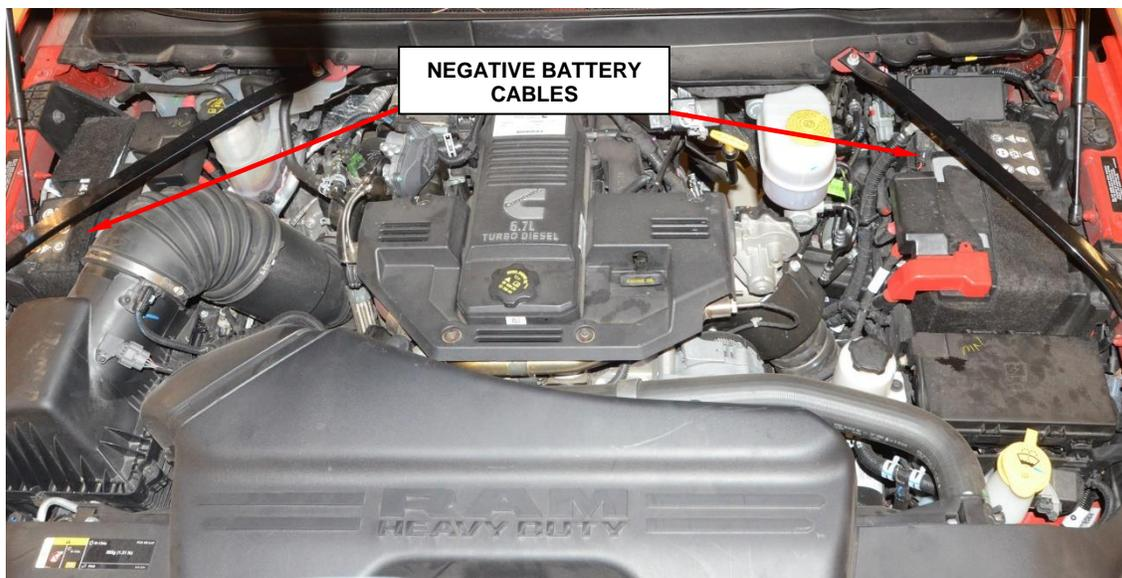

Figure 1 – Negative Battery Cables
1. Disconnect the Intelligent Battery Sensor (IBS) wire harness connector (Figure 1).